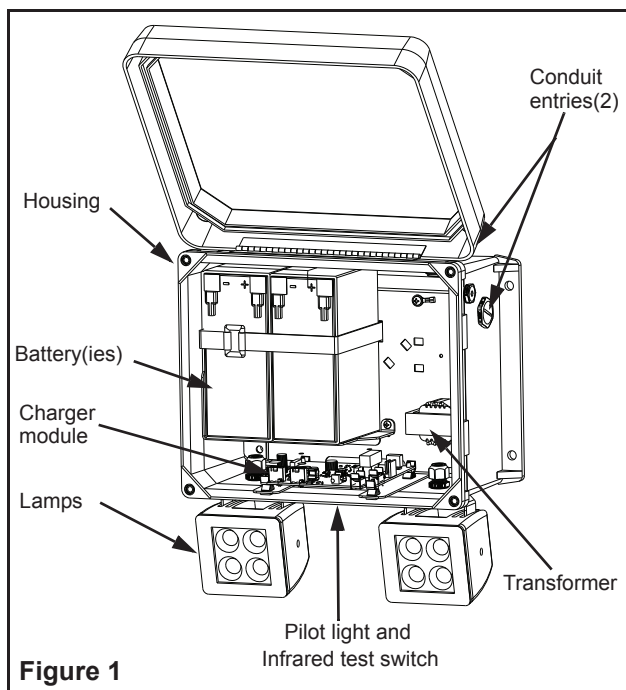

Figure 1
- a. Open the cover (See figure 1). Select the entry point for the AC conduit (top or side) and remove one of the plastic bushings. For units with remote emergency lighting: remove the second bushing to install the conduit for DC wires.